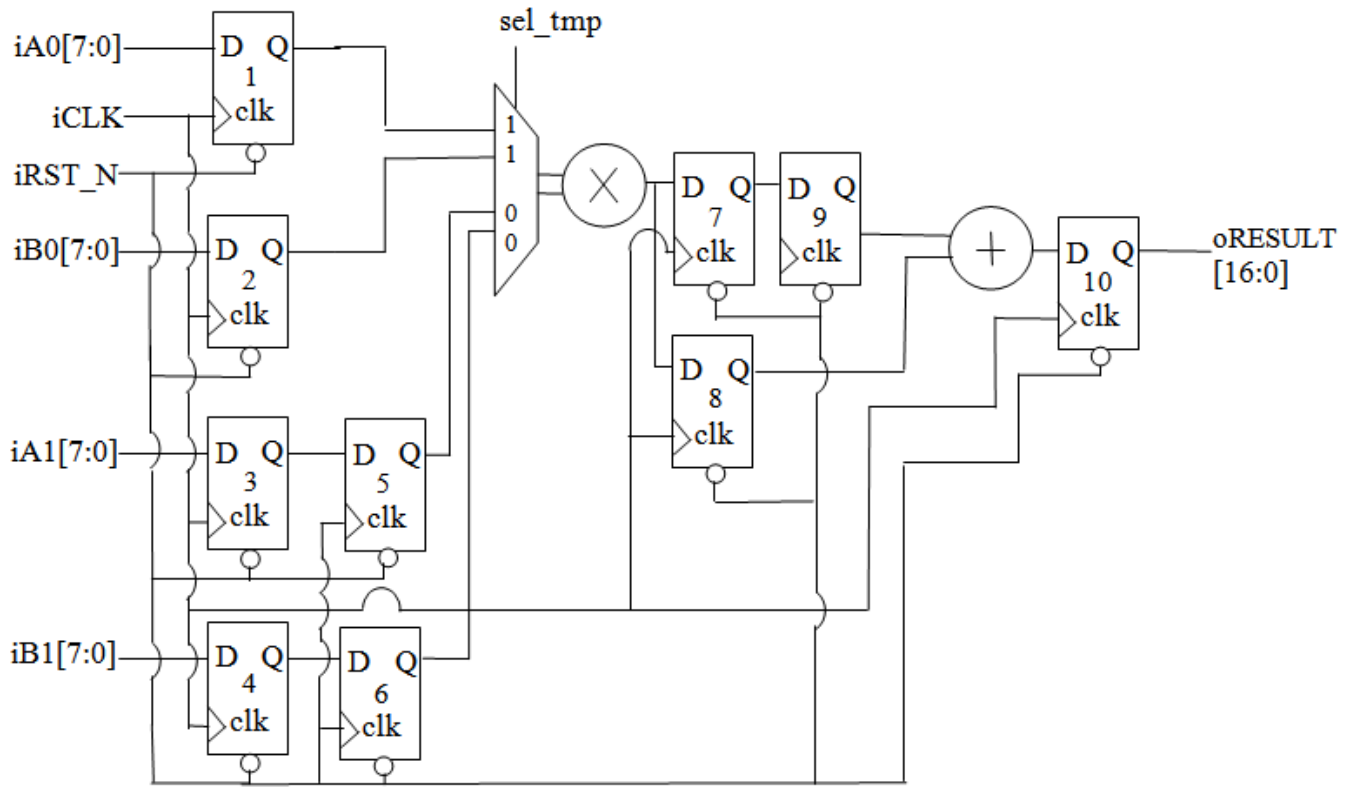

Fig. 2: Area optimized circuit for the example design.
1. In Fig. 2, one of the registers can actually be eliminated. Please figure out which register is not necessary and modify the circuit diagram to eliminate it. You may just draw the modified circuit by hand but draw it clearly.